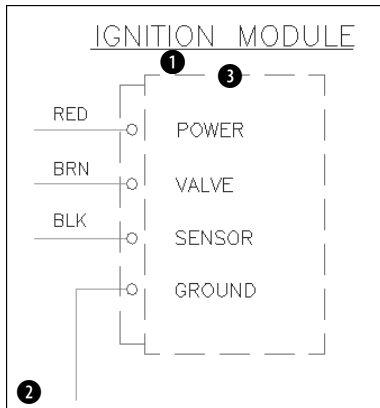

Figure 13-28: A section of an electrical schematic.
2. Save the file as `ab13-08.dwg` in your AutoCAD Bible folder. This is a small section of an electrical schematic, as shown in Figure 13-28. Make sure that ORTHO and OSNAP are on, and set running snaps for endpoint, midpoint, and intersection.